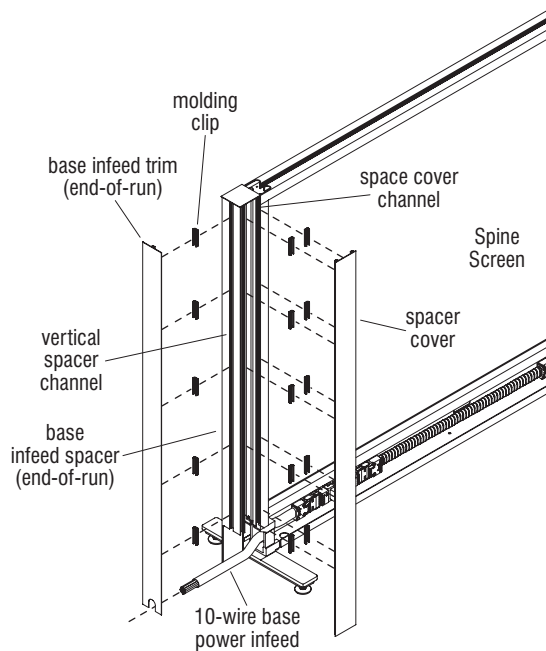

Figure 23
3. The screen connector comes with eight molding clips installed (shown uninstalled, Figure 23), four on each side. Position the screen connector up against the vertical frame channel of the Spine Screen, with clips oriented as shown. Using a firm hand, press at the mounting clips on the screen connector, one at a time to seat them into the vertical frame channel at the end of the Spine Screen (Figure 22 & Detail FF).
6. On the rib side of the base infeed trim, space molding clips evenly apart and press them onto the ribs of the trim (Figure 23 & Detail GG).
7. Position the base infeed trim with molding clips up against the base infeed spacer with the 10-wire infeed routed through the opening at the bottom of the infeed trim. Using a firm hand, press to snap molding clips of the base infeed trim into the vertical spacer channel (Figure 23 & Detail GG).
8. On the rib side of the base infeed spacer cover, space molding clips evenly apart and press them onto both ribs on the cover (Figure 23 & Detail HH).
9. Position the base infeed spacer cover with molding clips up against the base infeed spacer. Using a firm hand, press to snap molding clips of the spacer cover into the spacer cover channel (Figure 23 & Detail HH).